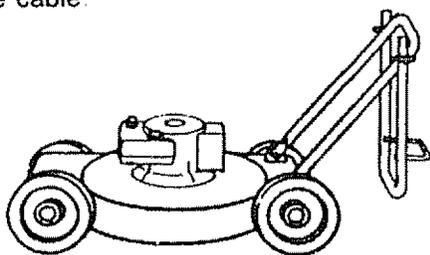

FIGURE 14.
- You can fold your mowers' upper handle for storage as shown in figure 14. Loosen the two (2) hand knobs on sides of the handle and let the upper handle fold down to the rear.